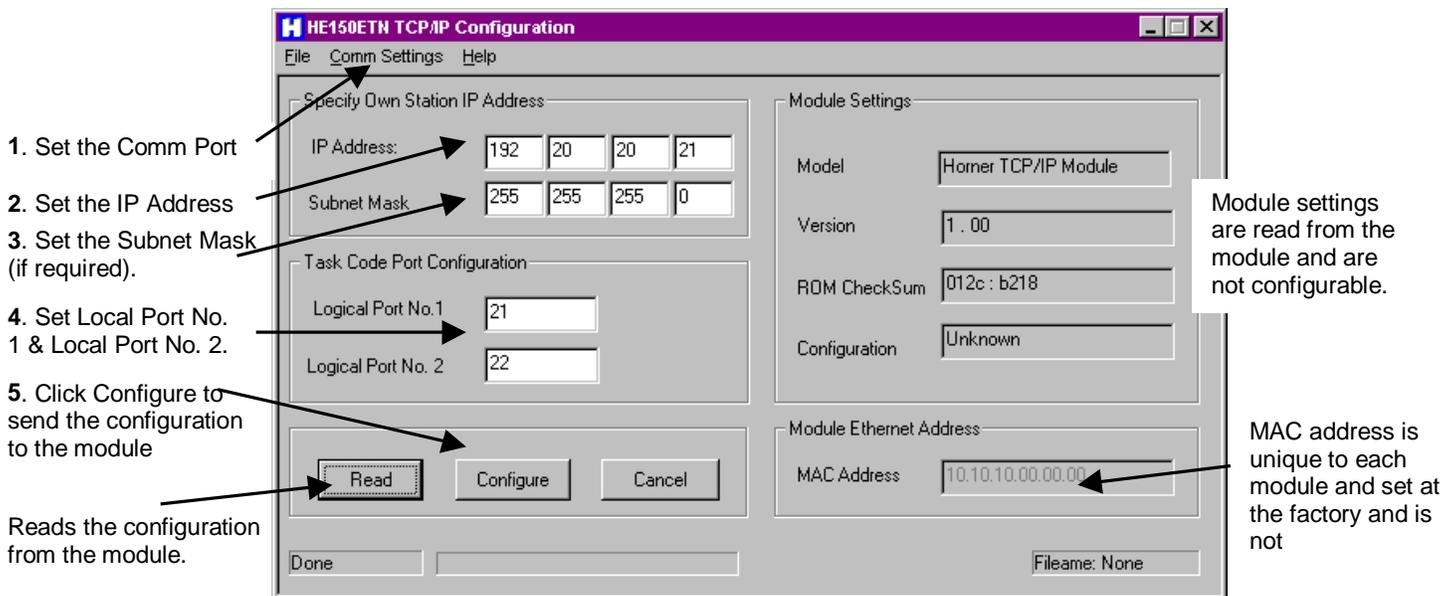

Figure 2.1 – HETCPIP Configuration Software Screen
Step 4: Start the HETCPIP Configuration Software. The screen in Figure 2.1 appears.